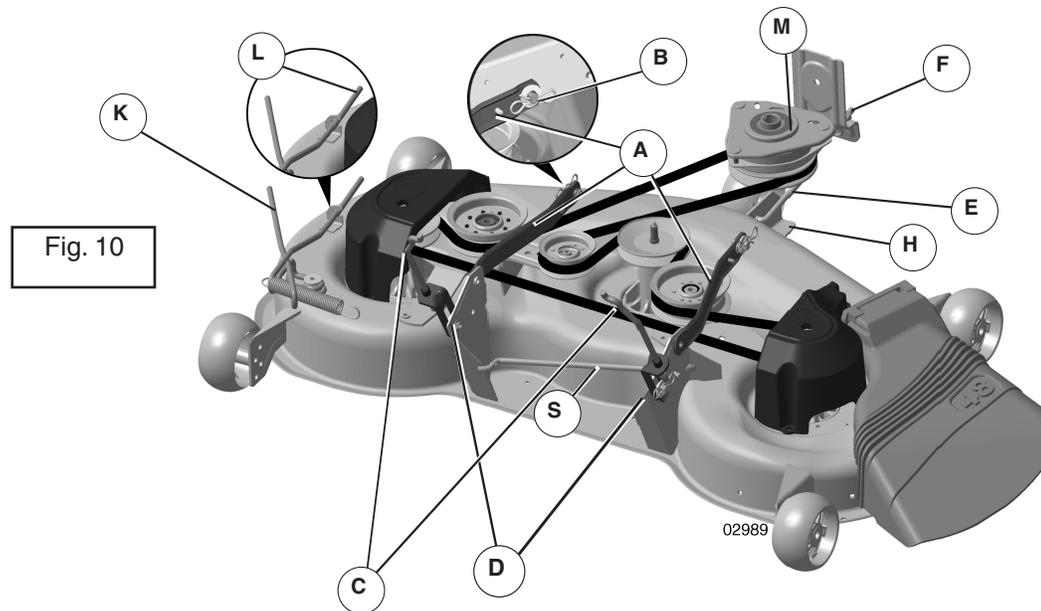

Fig. 10
- Insert other end of front link (E) into hole in front mower bracket (H) and secure with washer and small retainer spring (J).
- Disengage belt tension rod (K) from locking bracket (L) (Fig. 10).
- Engage belt tension rod (K) on locking bracket (L) (Fig. 10).